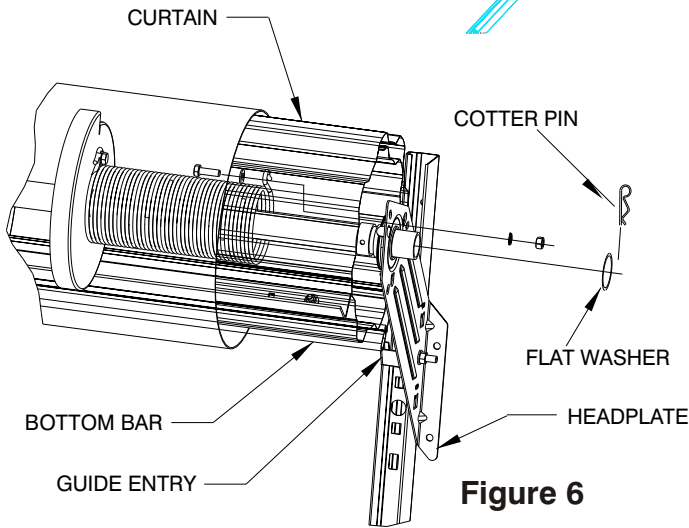

Figure 6
3. Slip the guide and headplate assemblies onto each end of the shaft and secure with cotter pin and flat washer. See Figure 6.
5. Rotate the curtain so the bottom bar is located above the guide entry line (see Figure 6.) Once this is done, rotate the curtain slightly as needed to line up the spring bolt ear with the nearest spring bolt hole in the headplate (Counterclockwise for a right hand spring and clockwise for a left hand spring when looking from the spring end). **IF THE DOOR HAS A SINGLE SPRING:** Rotate the curtain 1/3 of a turn clockwise to line up the spring bolt ear with the next available spring bolt hole in the headplate. Bolt the spring to the headplate per Figure 6. **IF THE DOOR HAS DOUBLE SPRINGS:** Bolt the springs to the headplate per Figure 6. (NOTE: Bolt both springs to same headplate location)